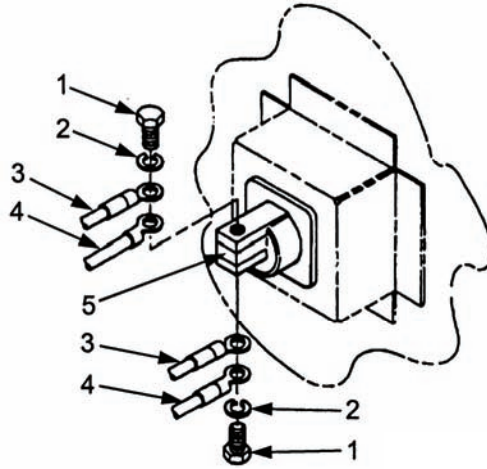

Figure 5-12. NATO Slave Receptacle Wiring.
- a. Remove bolts (1, Figure 5-12), lock washers (2), battery cables (3), and slave cables (4) from NATO slave receptacle (5). Discard lock washers (2).